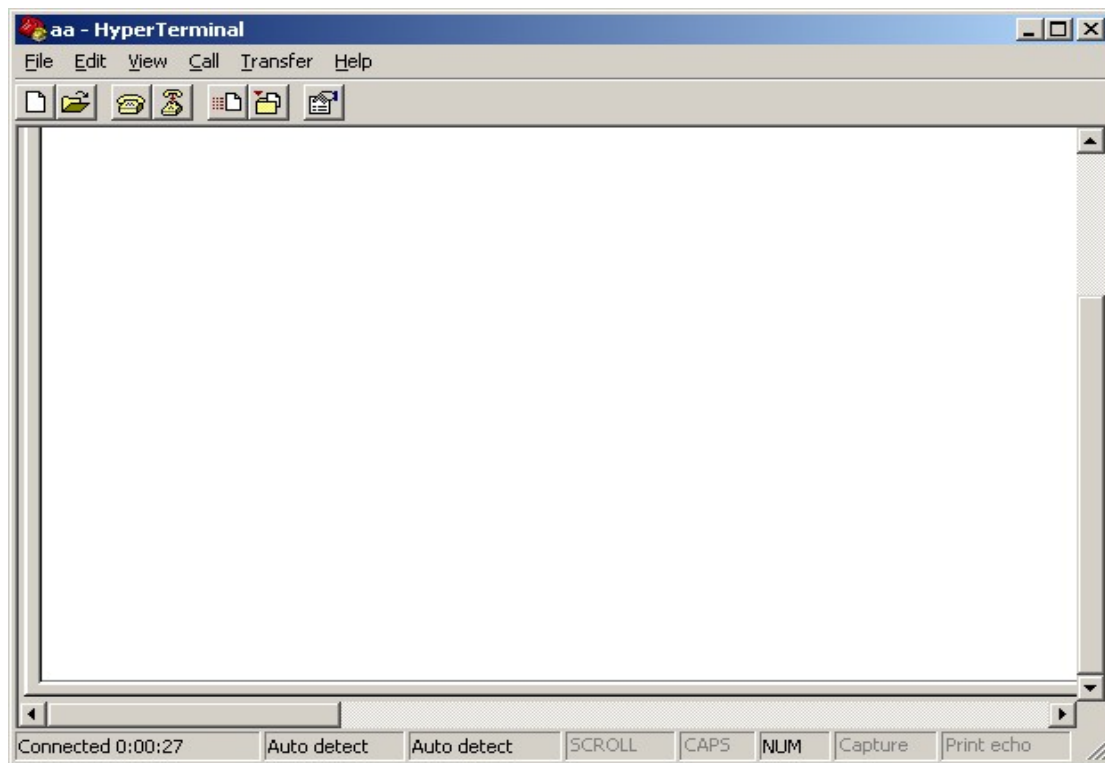

Fig. 3.1.4 Hyper Terminal Interface
finish, the Hyper Terminal interface like Fig. 3.1.4 will appear
**Step 1:** Enter into the Hyper Terminal. Click “Start”→ “Programs”→ “Accessories”→ “Communications”→ “Hyper Terminal”→ “aa.ht”, the Hyper Terminal interface in Fig. 3.1.4 will appear.